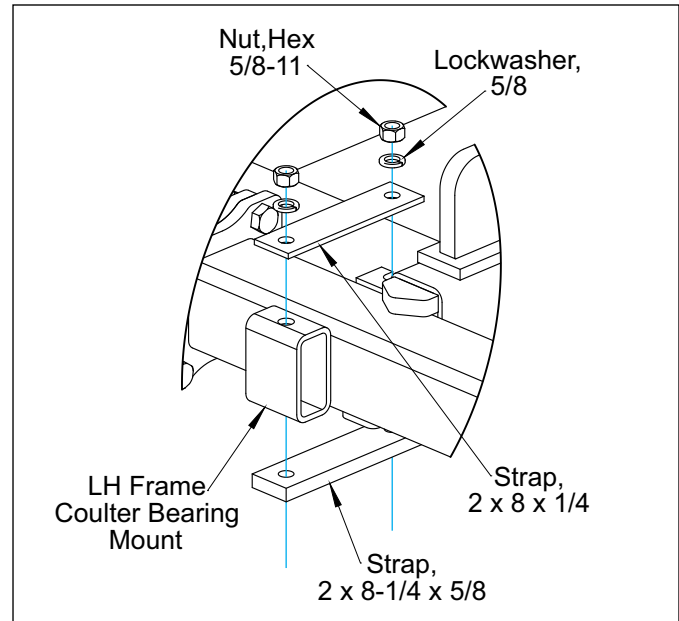

Figure 2-14: Strap Installation
3. Place the Axle Bearing Assembly with the grease fitting under the top Axle Bearing and raise the Coulter Gang Assembly. Put a 2 x 8-1/4 x 5/8 Strap on top of each Axle Bearing so that it will be between the Frame and the Axle Bearing. Only on the inside LH Frame Coulter Bearing Mounts place a 2 x 8 x 1/4 Strap on top of the Frame. **See Figure 2-14.**